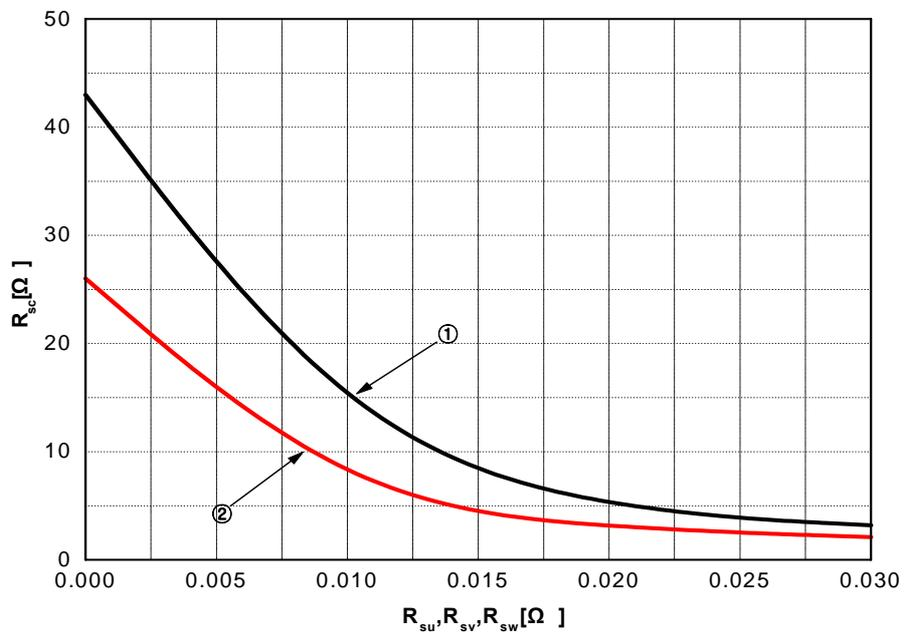

Fig. 6. R_{SC} Variation by change of Shunt Resistors (R_{SU}, R_{SV}, R_{SW}) for Short-Circuit Protection
- Short-circuit current protection is functioning only at the low-sides. It would be recommended that the value of the external sensing resistor (R_{SC}) should be selected around 26 Ω in order to make the SC trip-level of about 100A at the shunt resistors (R_{SU}, R_{SV}, R_{SW}) of 0 Ω. For the detailed information about the relationship between the external sensing resistor (R_{SC}) and the shunt resistors (R_{SU}, R_{SV}, R_{SW}), please see Fig. 6.